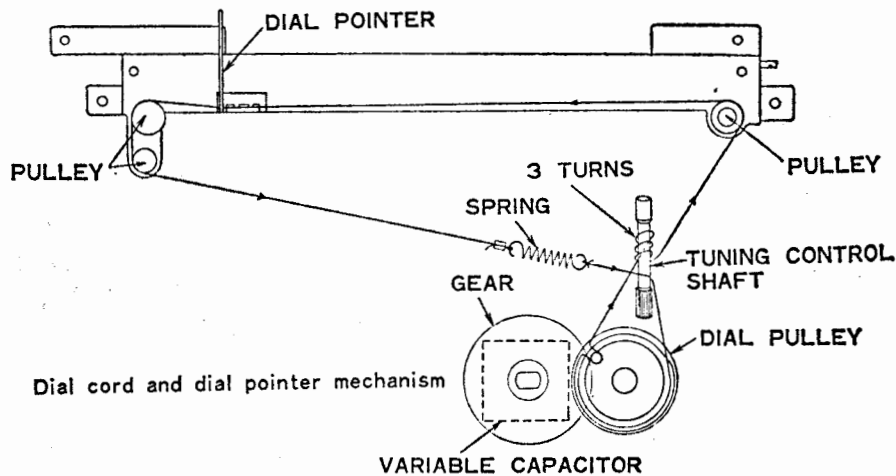

Fig. 2
After taking out the chassis, move the dial pointer to the low frequency by tuning knob. Refer to Fig. 2.
the knotted section of dial pulley shown in Fig. 2.
- 3) Loop the dial cord according to each arrow's direction as shown in Fig. 2.